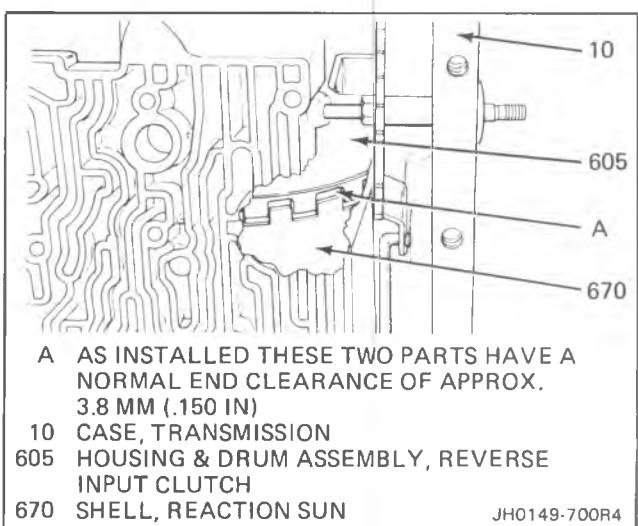

Figure 173 Clearance Between Reverse Input Clutch and the Sun Gear Shell
**Important (Figure 173)**
- There should be clearance between the reverse input clutch and the reaction sun gear shell. This clearance can be observed at the point shown in 700-R4 Figure 173. **Do not** try to shim the internal parts because of this clearance.